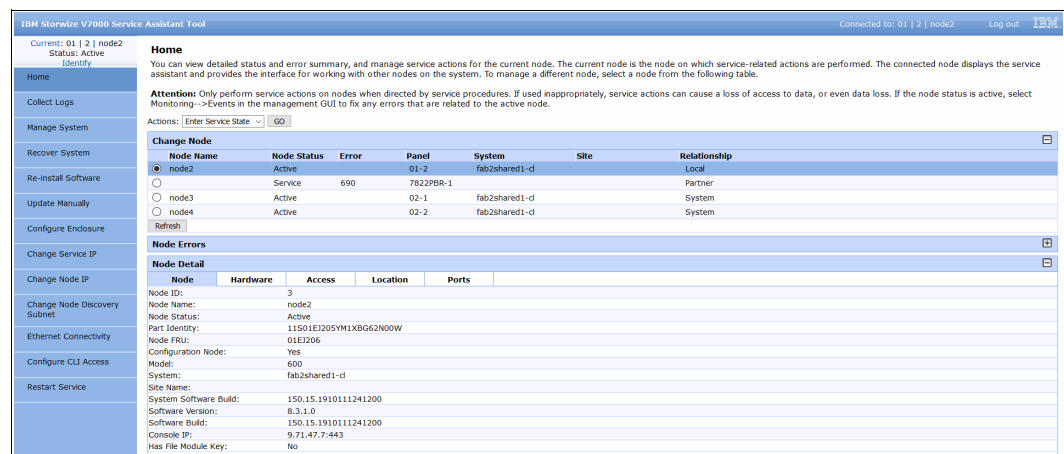

Figure 13-69 Service Assistant Tool GUI
2. After you are logged in, you see the Service Assistant Home window, as shown in Figure 13-69. The SAT can view the status and run service actions on other nodes in addition to the node to which the user is logged in.
- The current node canister is displayed in the upper left corner of the GUI. As shown in Figure 13-69 on page 962, this is node2. Select the node that you want in the **Change Node** section of the window. You see the details in the upper left change to reflect the selected node canister.